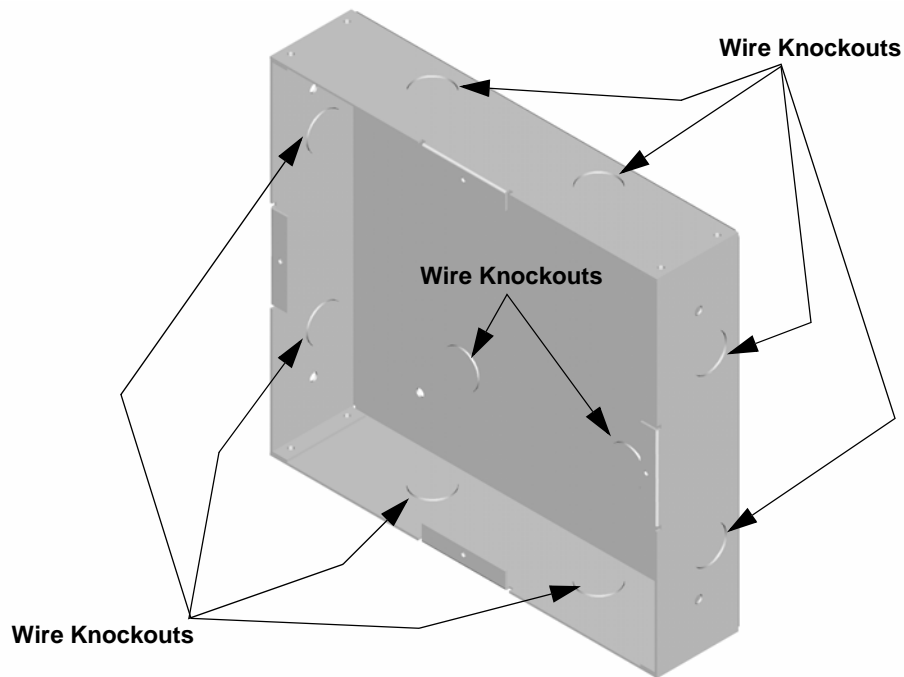

Figure 4-12 Back Box Knockout Locations
2. Remove knockout holes as needed for wires. See Figure 4-12 for backbox knockout locations
1. Remove the desired knock out. See Figure 4-12.